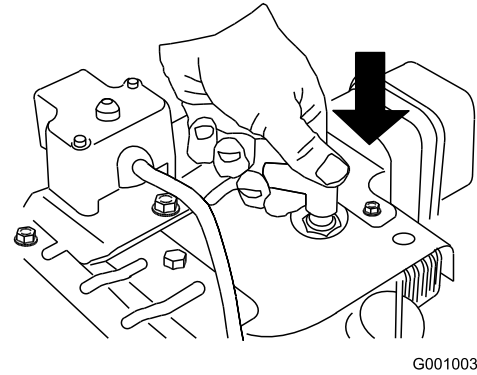

Figure 21
1. Connect the spark plug wire (Figure 21).